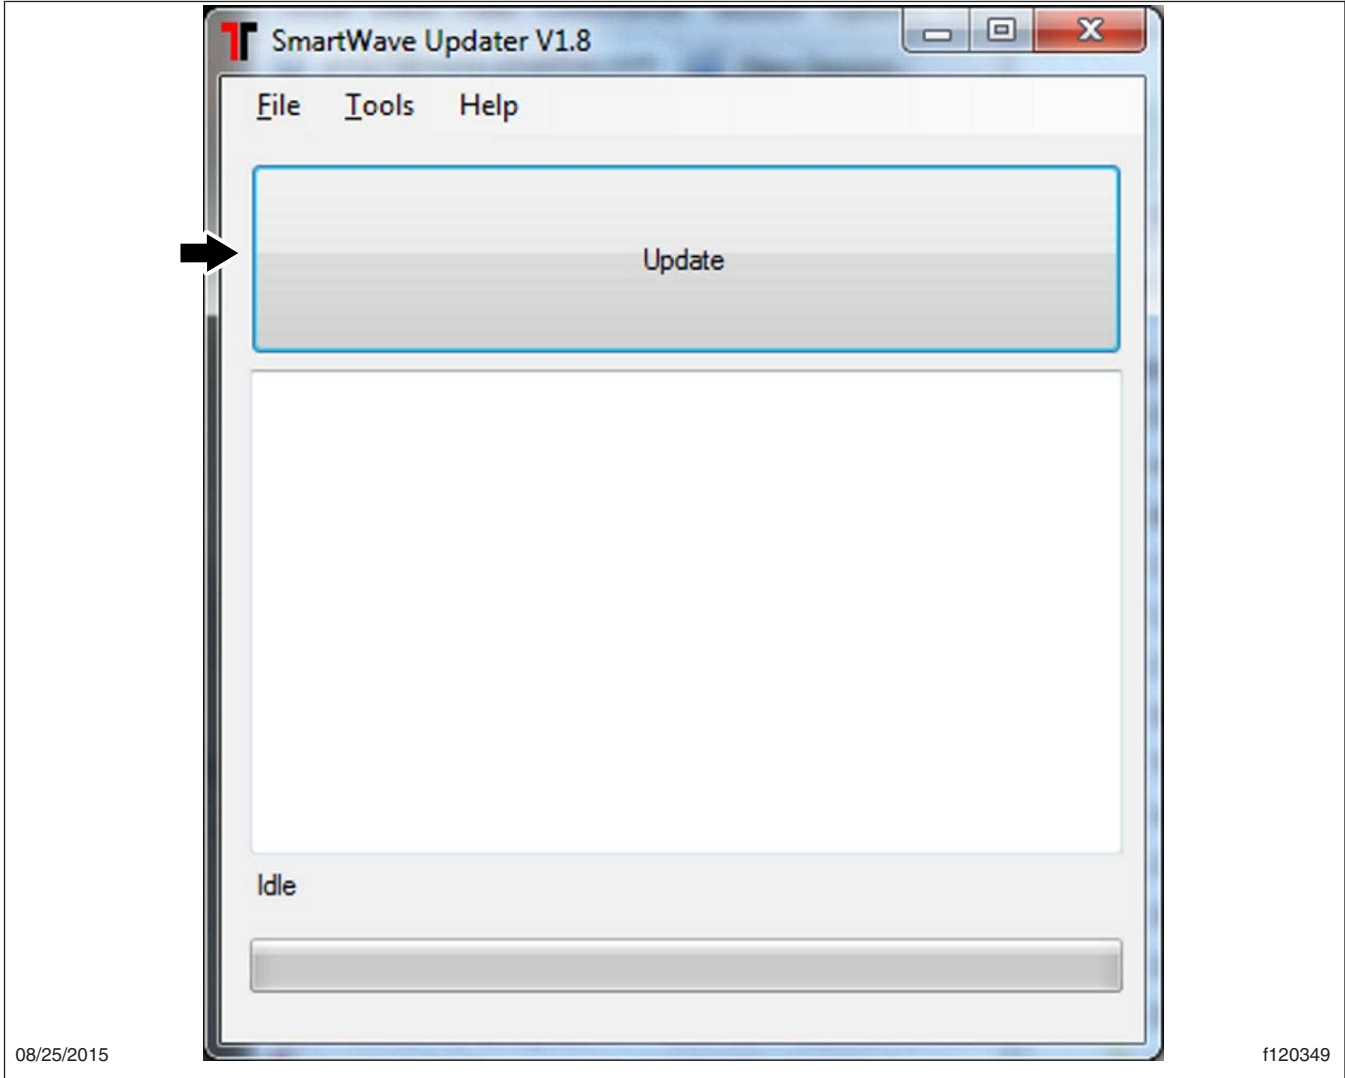

Fig. 1, SmartWave Updater Main Window
6. Select the "Update" button. See Fig. 1.